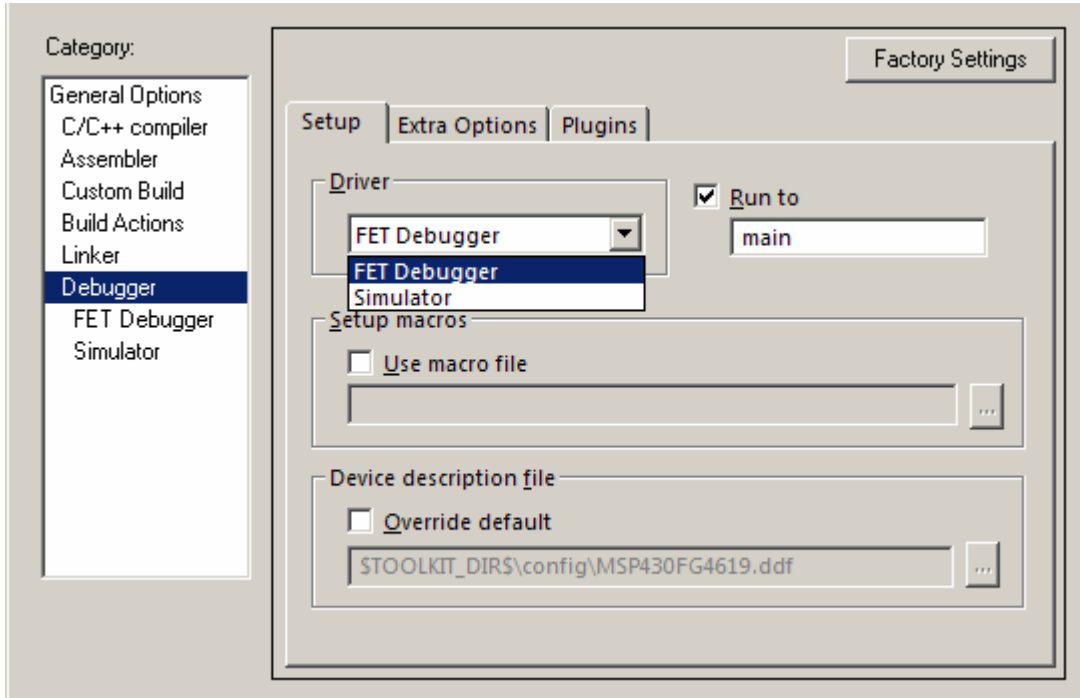

Figure A-2: Selecting the FET Debugger
- From the same menu under the **Debugger** option, select the **FET Debugger** shown as a snapshot in Figure A-2.
4. From the same menu under the **Debugger** option select the **FET Debugger** shown as a snapshot in Figure A-2.